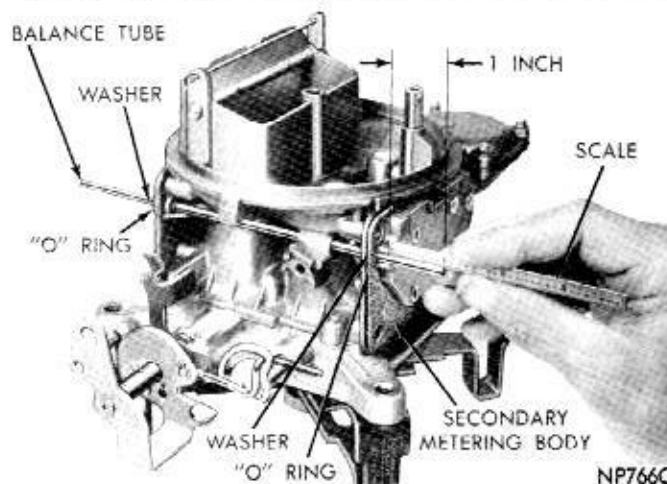

Fig. 14—Positioning Balance Tube
(5) Position balance tube so that only 1 inch extends beyond the secondary metering body (Fig. 14). (Use a 6 inch ruler for this measurement.)
(6) Place a new gasket over primary metering body aligning pin. (Rear) Carefully slide metering body